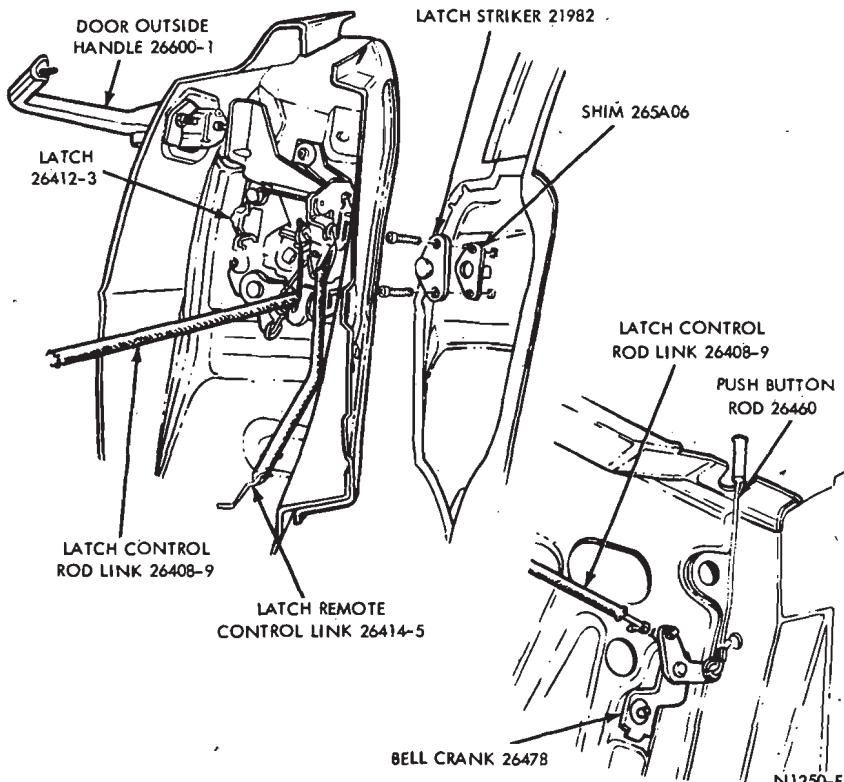

FIG. 8—Rear Door Latch Installation
2. Disconnect the remote control link and the lock control rod from the latch (Fig. 8).
4. Connect the remote control link and lock control rod to the latch assembly (Fig. 8).